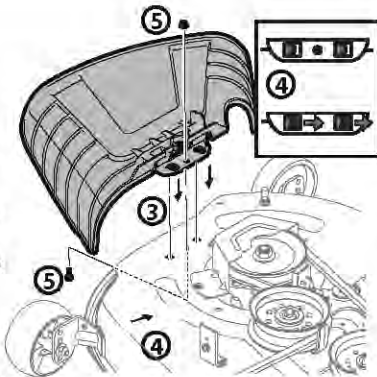

Figure 18
3. Place the chute deflector on the deck, be sure to insert the tabs on the chute deflector into the holes on the deck. See Figure 18.
4. Slide the chute deflector toward the rear of the tractor until the bolt hole in the chute deflector aligns with the hole in the deck. See Figure 18.
5. Secure the chute deflector in place with the flange lock nut and hex screw removed in step two. Tighten to 102-124 in-lbs (11.5-14 N-m). See Figure 18. Skip ahead to "Setting the Deck Wheels".